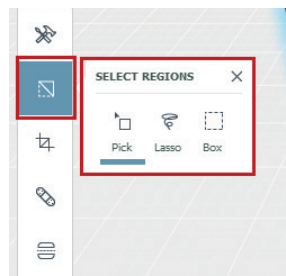

Figure-48. SELECT REGIONS toolbox
- Click on the **Select Regions** tool from the left toolbar to select different regions of model and apply basic operations. The **Select Regions** toolbox will be displayed; refer to Figure-48.